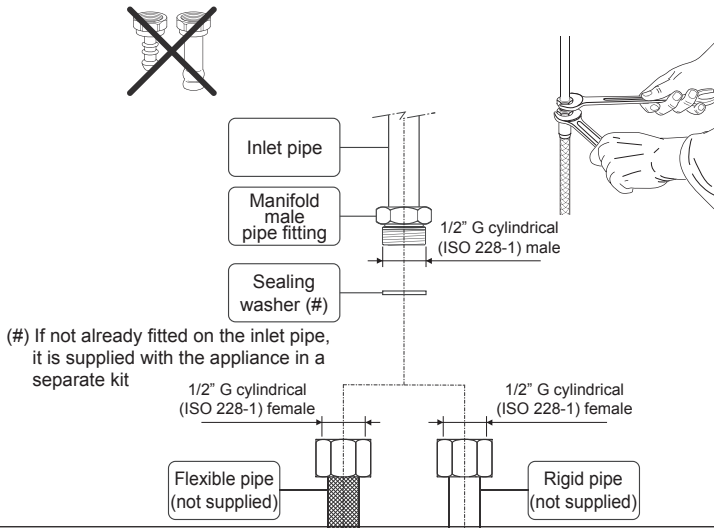

Fig. 8.3
- if compression fittings are used, you tighten them firmly using two spanners (fig. 8.3).
- use two spanners when connecting the rigid or flexible pipe (fig. 8.3).